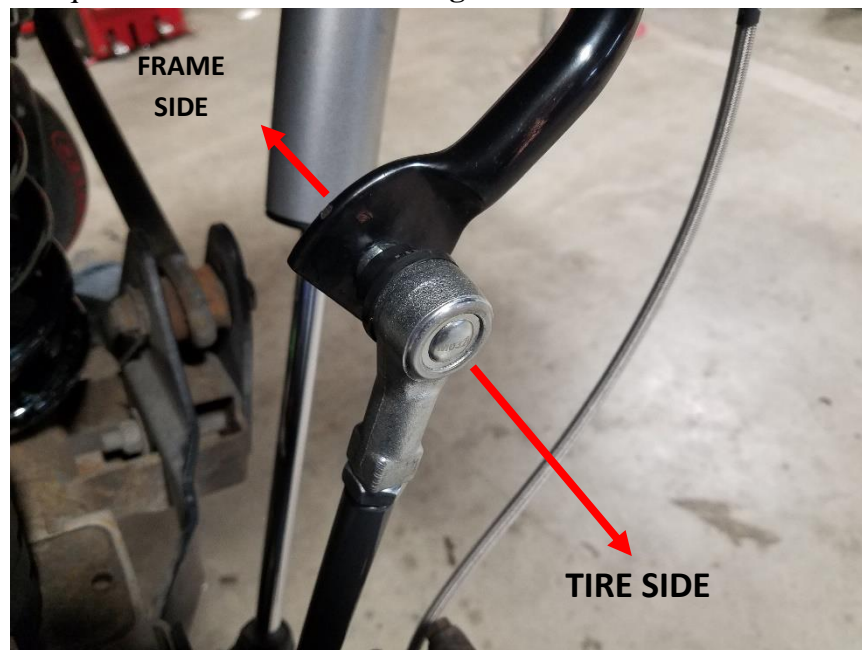

Figure 1. Correct sway bar link rod end orientation.
3. Install the sway bar link rod ends into the sway bar, with the nuts towards the frame. Tighten to 60 lb-ft. Use an open end 14mm wrench to hold the flats on the stud next to the dust boot in order to prevent the stud from spinning. Make sure the zerk fitting on the sway bar link faces the rear of the Jeep. The nut requires a 15mm socket. See **Figure 1**.